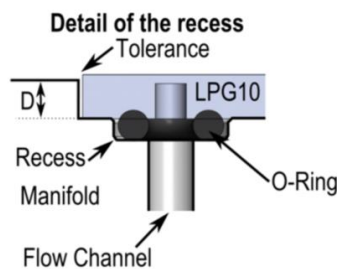

Figure 2: Detail of the recess design. D is the depth of the recess.
- The depth of the glass chip recess *D* is 1.35 mm, see Figure 2.